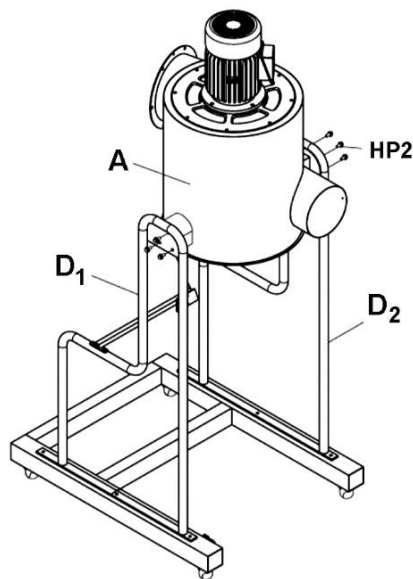

Figure 5
6. Position main housing (A) between left and right stands (D1,D2), and secure with six flange head screws (HP2). See Figure 5.